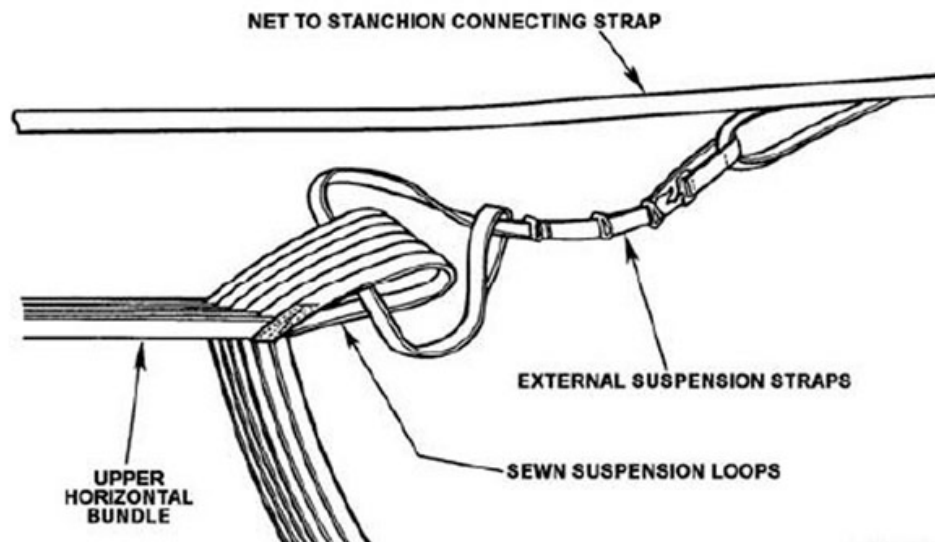

Figure 1-13. External suspension straps.
- Two external suspension straps (one on each side of the net assembly), adjustable in length, designed to raise the net at its ends, shown in figure 1-13.
- Two net-to-stanchion connecting straps, shown in figure 1-13, which connect to the shear links (one on each side of the net). The straps connect to the three inner suspension straps at each side of net and provide length adjustment loops.